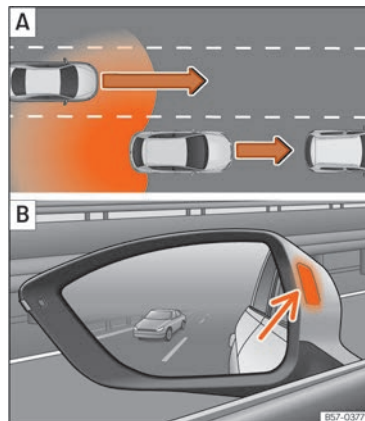
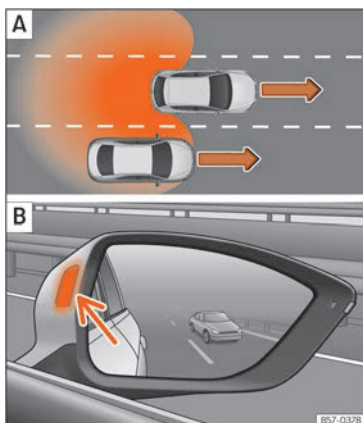

Fig. 129 Schematic diagram: **A** Overtaking with traffic behind the vehicle. **B** Side Assist indication on the left hand side.
Fig. 130 Schematic diagram: **A** Overtaking in the central lane and then joining the right lane. **B** Side Assist indication on the right hand side.
In the following situations, an indication will be displayed in the control lamp >>> Fig. 129 **B** [arrow] or >>> Fig. 130 **B** [arrow]:
- When being overtaken by another vehicle >>> Fig. 129 **A**.
- When passing another vehicle >>> Fig. 130 **A** with a speed differential of approx. 10 km/h (6 mph). If the vehicle is passing at a considerably higher speed, no indication will be displayed.